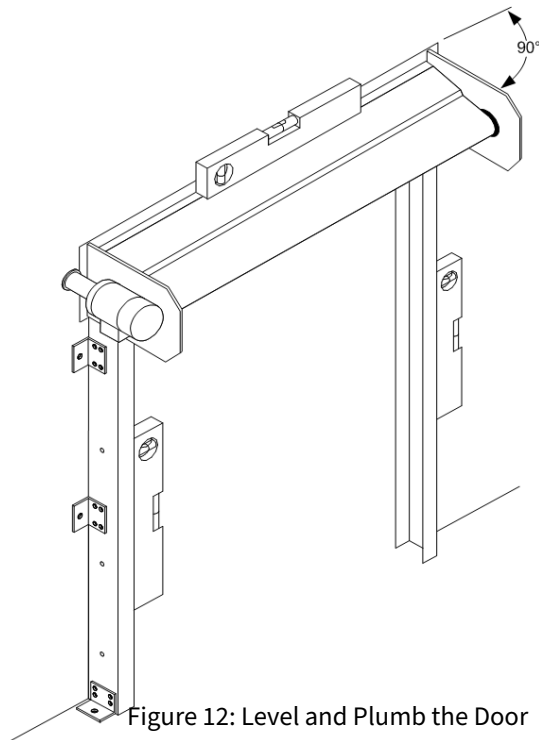

Figure 12: Level and Plumb the Door
5. If necessary, shim the low side of the opening where the side guide of the door will be positioned (Figure 12).